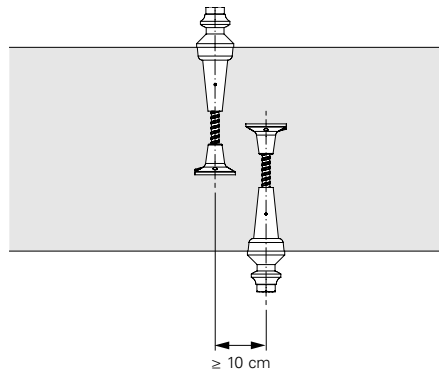

Fig. B1.02
- If  $h_1 + h_2 < d$ , the anchor positions must be horizontally or vertically offset. (Fig. B1.02 + B1.03)